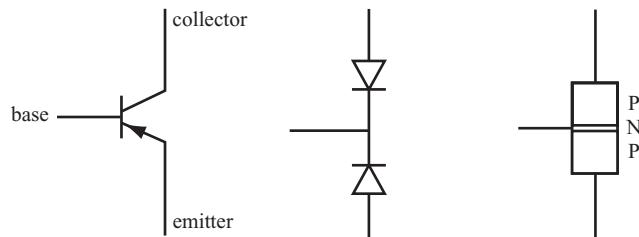

FIGURE 3.6
- 5** It is also possible to make transistors with a PNP configuration, as shown in Figure 3.6.